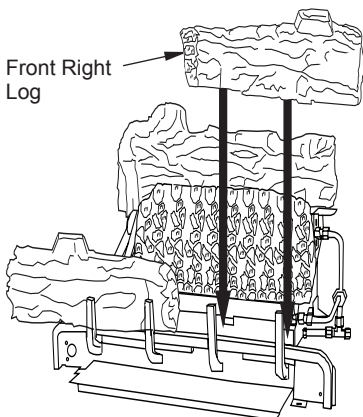

Figure 30 - Installing Front Right Log
4. Position front right log against right side of grate prongs (see Figure 30).